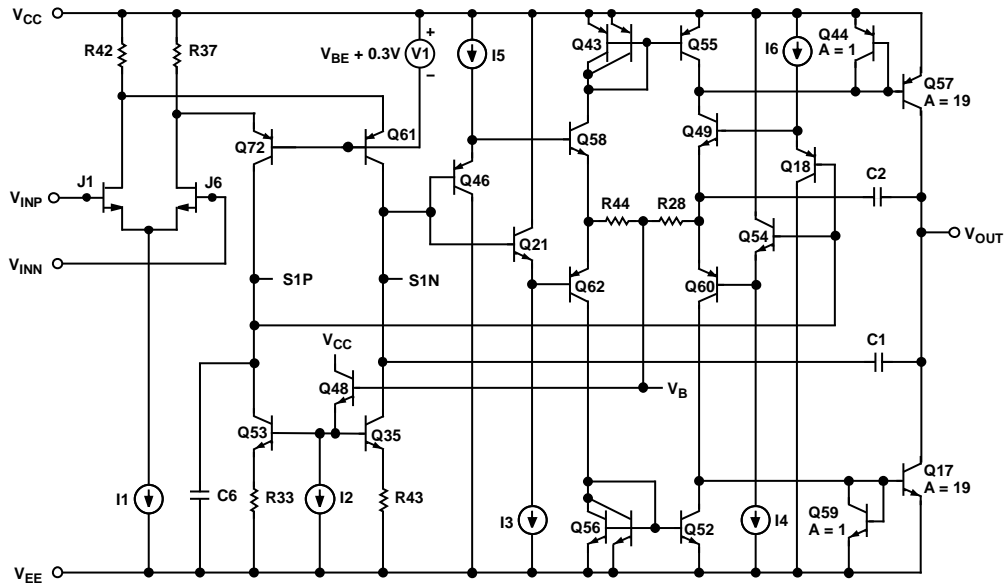

Figure 36. Simplified Schematic
The AD823 is fabricated on the Analog Devices, Inc. proprietary complementary bipolar (CB) process that enables the construction of PNP and NPN transistors with similar  $f_T$ 's in the 600 MHz to 800 MHz region. In addition, the process also features N-Channel JFETs that are used in the input stage of the AD823. These process features allow the construction of high frequency, low distortion op amps with picoamp input currents. This design uses a differential output input stage to maximize bandwidth and headroom (see Figure 36). The smaller signal swings required on the S1P/S1N outputs reduce the effect of the nonlinear currents due to junction capacitances and improve the distortion performance. With this design, harmonic distortion of better than  $-91$  dB @ 20 kHz into  $600 \Omega$  with  $V_{OUT} = 4$  V p-p on a single 5 V supply is achieved. The complementary common emitter design of the output stage provides excellent load drive without the need for emitter followers, thereby improving the output range of the device considerably with respect to conventional op amps. The AD823 can drive 20 mA with the outputs within 0.6 V of the supply rails. The AD823 also offers outstanding precision for a high speed op amp. Input offset voltages of 1 mV maximum and offset drift of  $2 \mu V/^\circ C$  are achieved through the use of the Analog Devices advanced thin film trimming techniques.